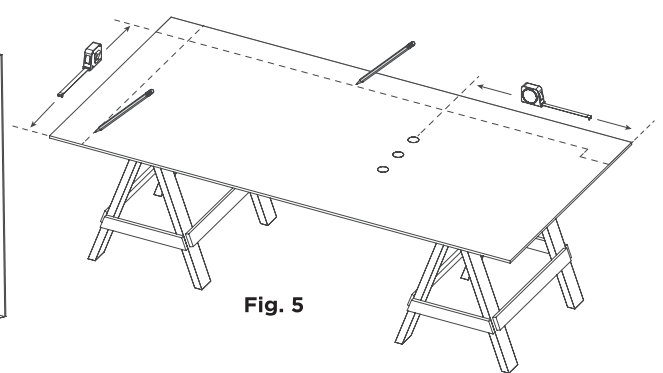

Fig. 5
- 4.5 Carefully measure and mark all the corresponding cut-outs on the panel. **(Fig. 5)**